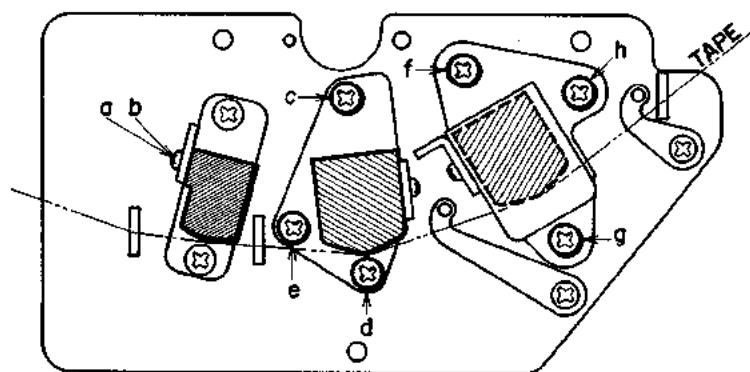

Fig. 9
1. HEAD HEIGHT ADJUSTMENTS (See Figs. 9, 10)
(See Figs. 9, 10)
3. HEAD AZIMUTH ALIGNMENT ADJUSTMENTS (See Figs. 9, 10)